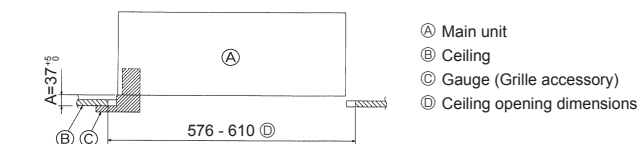

Fig. 2-6
- When the main unit can not be aligned against the mounting hole on the ceiling, it is adjustable owing to a slot provided on the mounting plate. (Fig. 2-6)